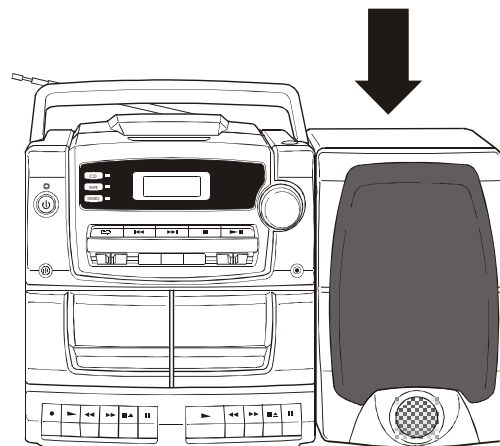

FIG. 2
4. When speaker fits over the rails, lower the speaker as shown in FIG. 2, and make sure the tabs snap into the speaker box (locks in the back).